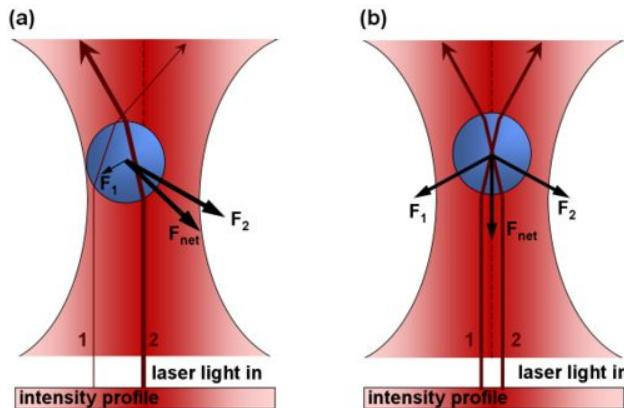

Figure 9: A ray diagram showing how the gradient force stabilizes the trap laterally
In order to understand how the equilibrium is stable, it will help to consider how the gradient force responds to displacement of a bead from the center. In the figure 9 above, the red region represents the “waist” of the laser at its focus point, with the laser passing upward through the sample chamber. The blue ball is the bead, and the black arrows (1) and (2) represent light rays whose thicknesses correspond to their intensities (note that the beam is brightest at its center).